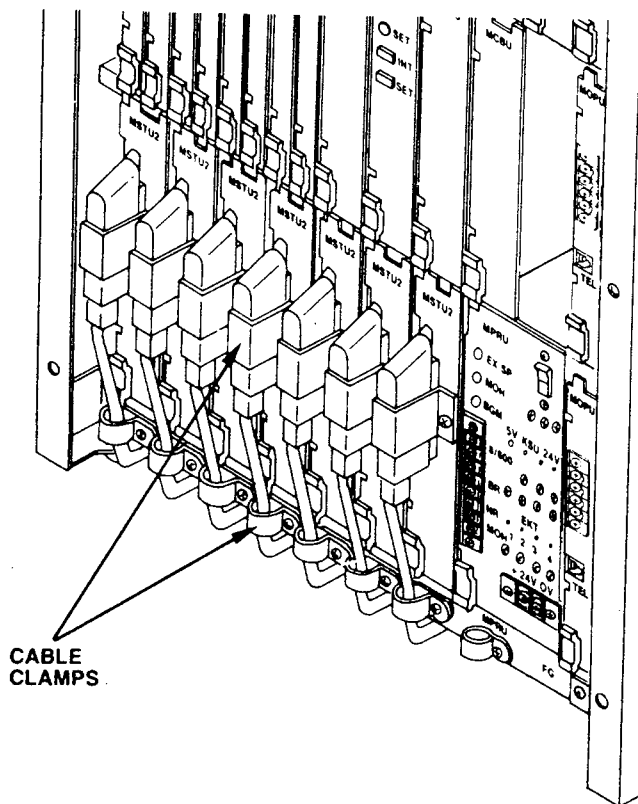
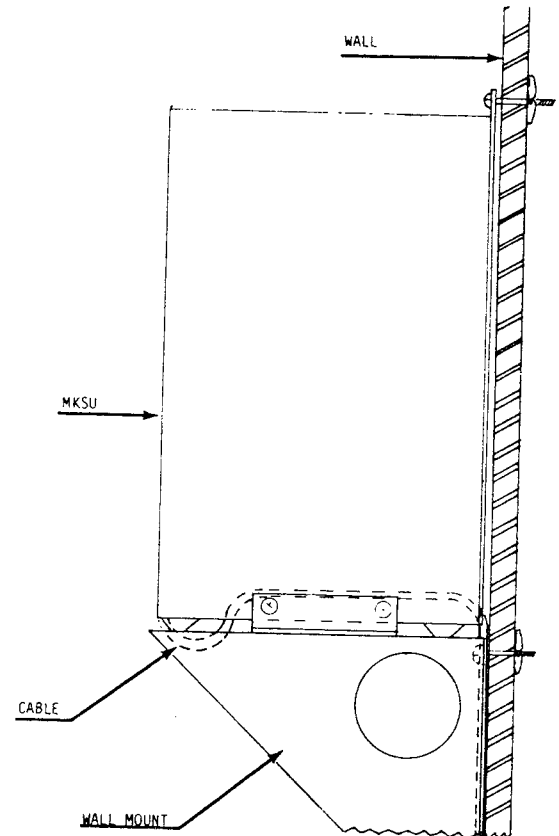

FIGURE 21—MKSU CABLE CLAMPING
FIGURE 22—MKSU CABLE ROUTING
08.12 A 25-pair male-amphenol-ended cable is connected directly to the front of each MSTU and fastened with the provided metal bracket (Figure 21).
08.13 Secure the cables to the bottom of the MKSU shelf (Figure 21) with the provided plastic cable clamps. Route the cables under the MKSU and toward the rear, as shown in Figure 22.